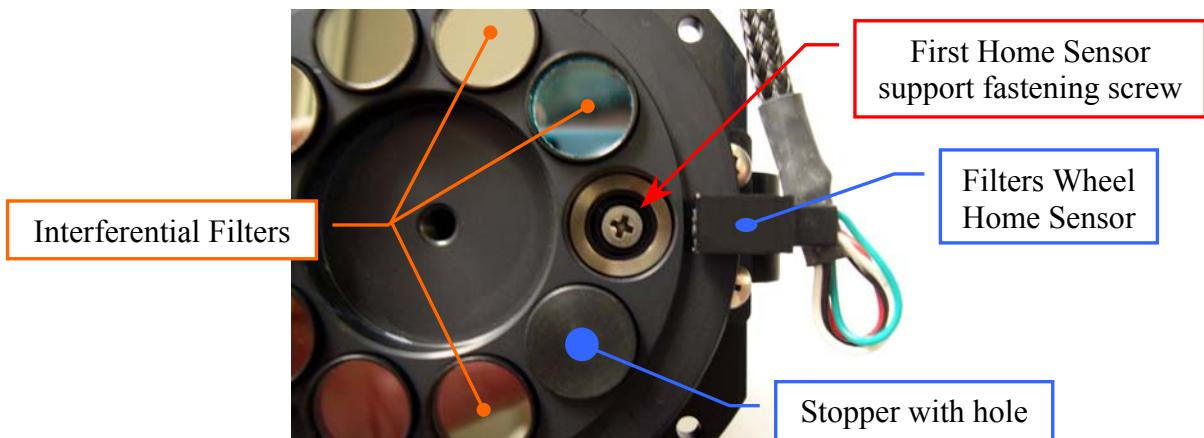

Fig. 63 – First Home Sensor support fastening screw
4. Remove the filter - using the tweezers - from its seating on the Filters Wheel (as showed in **Fig. 63**) and unscrew the first Home Sensor support fastening screw placed under the Filters Wheel (**Fig. 63**).